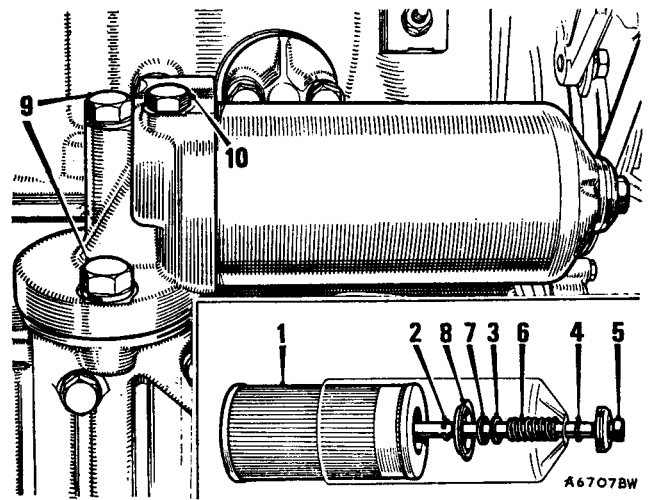

Fig. Aa.1
6. Reassemble the filter bowl with a new element and the internal components fitted in the order shown in Fig. Aa.1. Ensure that the internal sealing washer is in good condition and a snug fit on the retaining bolt.